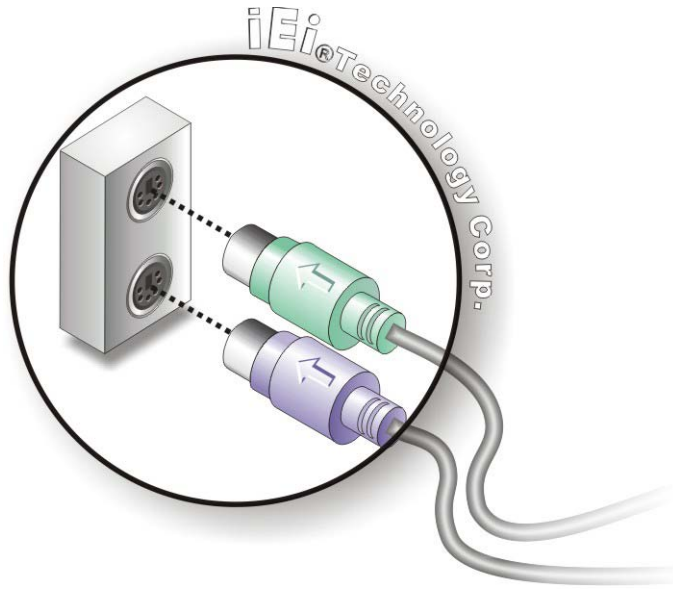

Figure 4-18: PS/2 Keyboard/Mouse Connector
Step 2: Insert the keyboard/mouse connector. Insert a PS/2 keyboard or mouse connector into the appropriate PS/2 connector on the external peripheral interface connector. See Figure 4-18.